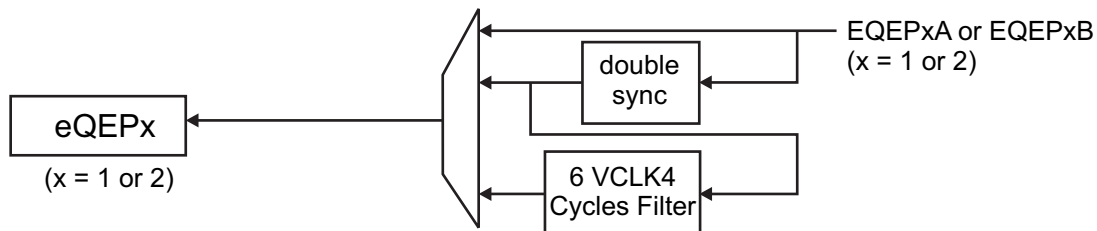

Figure 6-9. eQEPx Input Synchronization Selection Detail
A. For more detail on the eQEP input synchronization selection of the EQEPx/A/B pins to each eQEPx module, see Figure 6-9.
Figure 6-9 shows the detailed input synchronization selection (asynchronous, double-synchronous, or double-synchronous + filter width) for eQEPx.